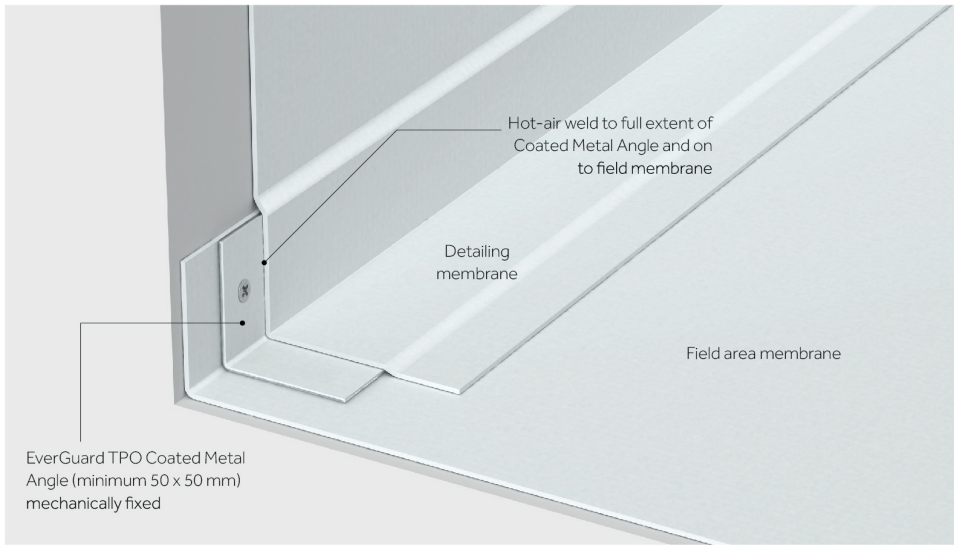

Figure 1. Perimeter fixing using EverGuard TPO Coated Metal.
- a 90° angle of EverGuard TPO Coated Metal (preferred method, see Figure 1);